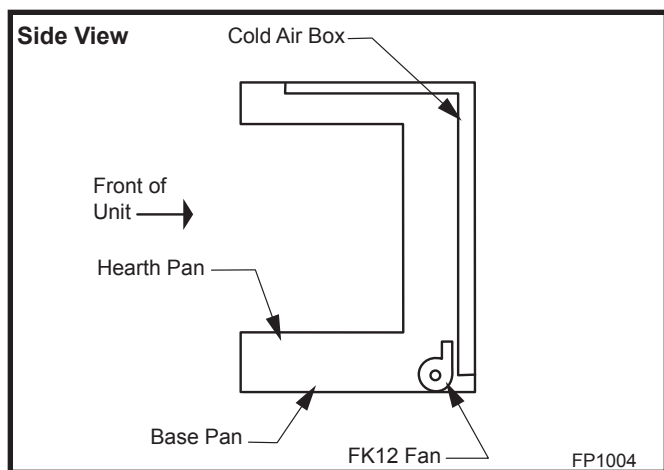

Fig. 77 FK12 Fan Kit placement.
2. Install FK12 fan in back of unit between hearth supports. (Fig. 77)